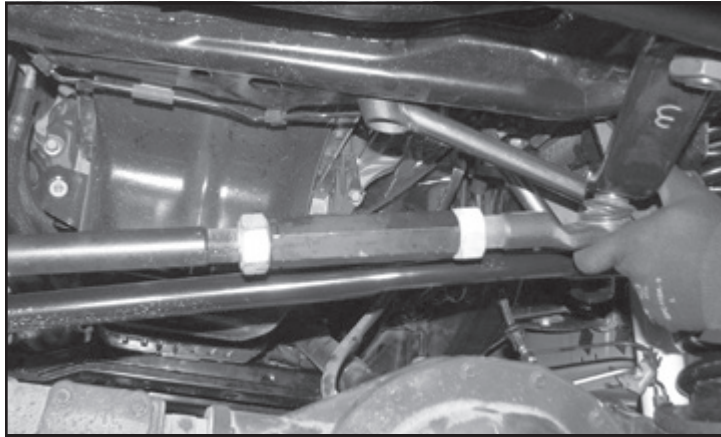

FIGURE 5 - STEP 10
10. Reassemble the drag link and connect it to the new pitman arm. **SEE FIGURE 5**